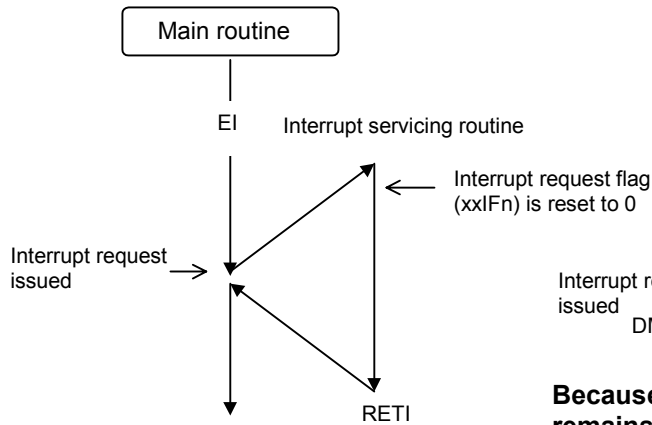

Figure 3-1. Normal Interrupt Servicing
When the above conditions (1) to (3) match and interrupt servicing begins, the interrupt request flag that should be reset by hardware is not reset, so that after returning from the interrupt servicing routine (RETI instruction), the interrupt servicing is executed again. (See Figures 3-1 and 3-2.)